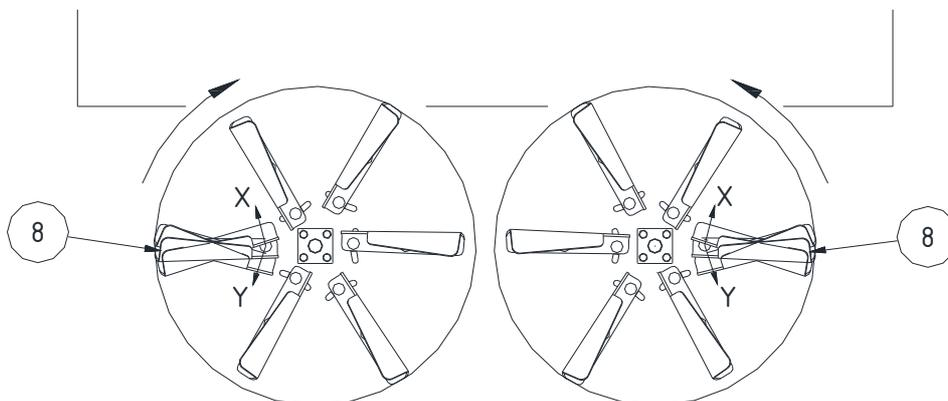

Fig. 4: Spreader disk
- Rotation of the throwing vanes (see disk setting with uneven spread pattern - fig. 4)
The throwing vanes (8) can be adjusted as necessary within the adjustment slots (fig. 4).